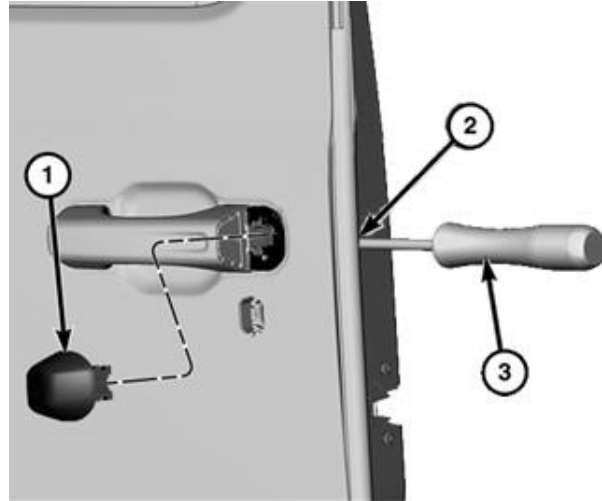

Figure 11 – Exterior Door Handle
18. Using a suitable tool (3), turn the slide plate screw (2) counter-clockwise to move the slide plate forward in the outside door handle bracket. **Do not attempt to remove the slide plate screw** (Figure 11).
- (1) - Door Handle Cap
- (2) - Slide Plate Screw
- (3) - Tool
19. Continue to turn the screw (2) while lightly pulling on the door handle cap (1) until the cap is removed (Figure 11).